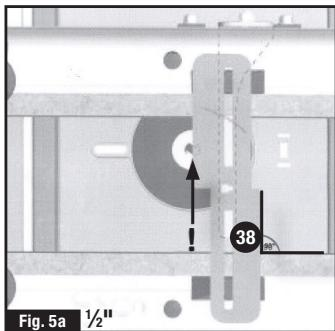

Fig. 5a  $\frac{1}{2}$ "
Adjust the appropriate finger stop ( $\frac{1}{4}$ " or  $\frac{1}{2}$ ") against the finger and tighten the nut. For  $\frac{1}{2}$ " use the stop on the brace side and for  $\frac{1}{4}$ " use the stop on the slider side of the finger. See Figs. 5a & b
7. The Initial Cut Stop (38) offsets the workpieces being jointed. It has a  $\frac{1}{4}$ " step on one side and a  $\frac{1}{2}$ " step on the other. It also determines the position of the first finger. As a starting point set up as shown in Fig 5a & b (as viewed from the front - switchbox end). Place the initial cut stop onto its supports with the keys locating in the long slots. Loosen the nuts and position the supports, by sight, to align the edge of the initial cut stop with the centre of the cutter (marked "!" in Fig. 5a & b). Use a square to ensure it is  $90^\circ$  to the fence. Re-adjust, as necessary, after making the practice joint.
4. Fit the initial cut stop as shown in Fig 5a & b. Slide it forward or backward until the step is approximately halfway between the fences